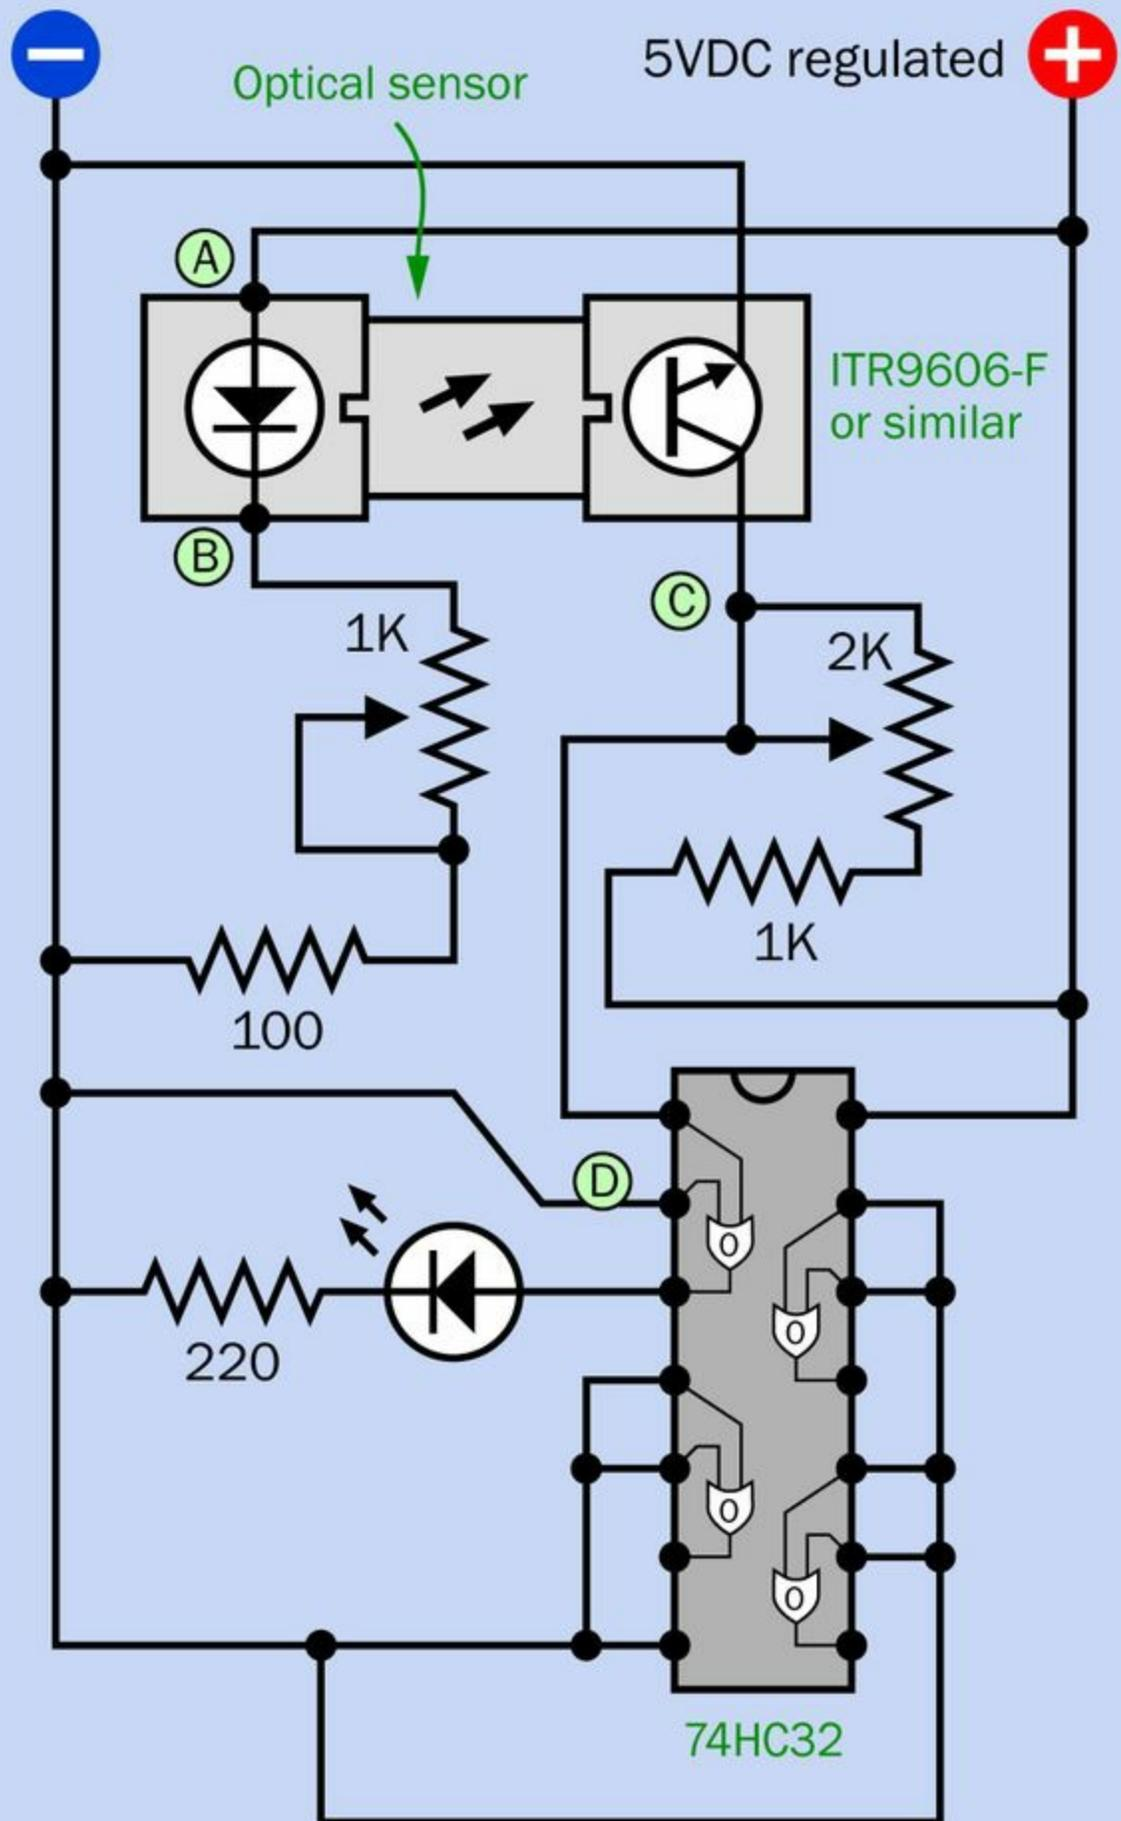

Figure 31-5. Schematic for testing a transmissive optical sensor in conjunction with an OR logic chip.
In **Figure 31-5** I'm suggesting that you test the sensor with a quad two-input OR logic chip. The reasons for this will become clear as we go along. A picture of the breadboarded circuit is in **Figure 31-6**.
In **Figure 31-5**, adjust the 1K trimmer to its maximum resistance. (Check it with your meter before you plug it into the board, if you are in doubt.) Now measure the voltage between points A and B. It should be between 1VDC and 1.2VDC.
- Each sensor has been rotated 180 degrees compared with the way I had them in the test schematic in Figure 31-5. I turned them around to minimize the wire crossovers when driving the Darlington array. Make sure you mount your sensors with the infrared LED on the right, not the left.